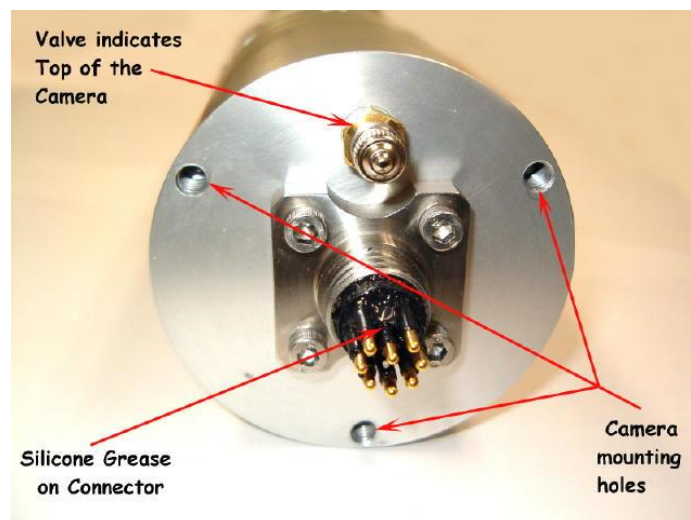

FIGURE 7: CAMERA MOUNTING HOLES
2. The brass valve indicates the top of the camera, as illustrated in Figure 7. Mount the camera as shown with the valve on top.